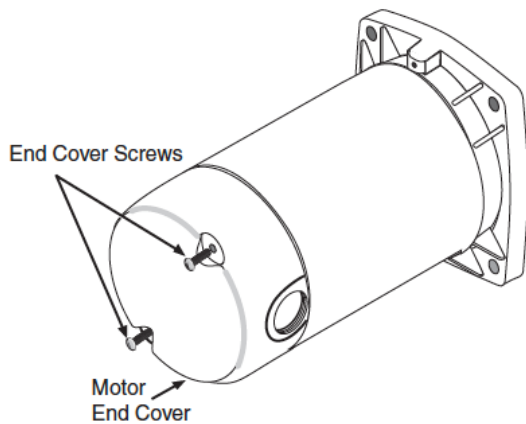

Figure 8: Removing End Cover
2. Remove the motor end cover to change the voltage setting (Figure 8).